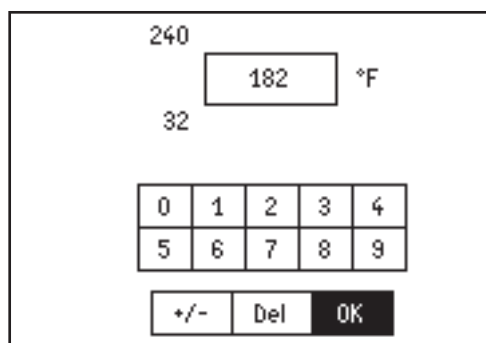

Figure 22. – Changing a Value
- Press the round OK button to select that line. **Figure 22** shows a typical screen for this type of setting.